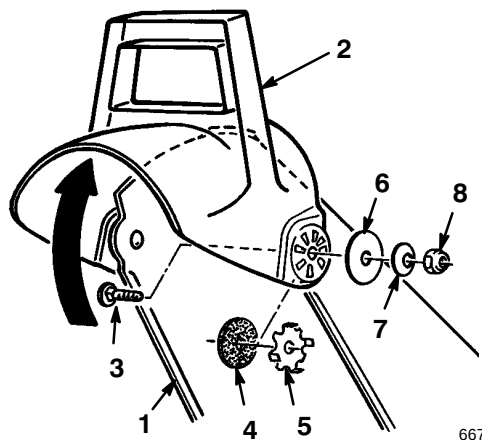

Figure 12
2. Secure the left side of the deflector to the discharge chute with the parts illustrated in Figure 12.